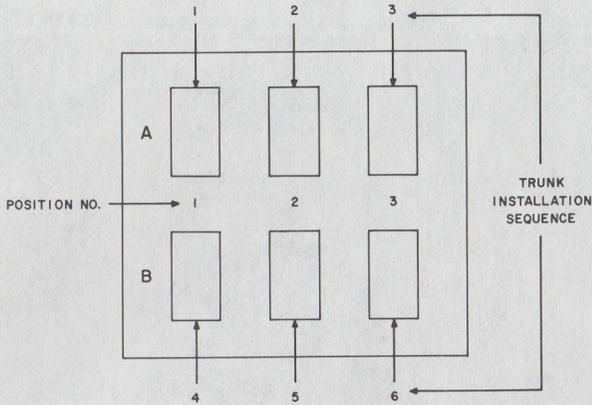

Fig. 3—Connector and Trunk Arrangement in 606A Panel
2.03 The panel is arranged to accept six CO or PBX lines. Fig. 3 shows the connector and trunk arrangement in the 606A panel.
Lower the designation strip holder and lock down to hold the upper IUs in place. Lower the retaining clip on the guide assembly and fasten to hold the lower IUs in place. Refer to Fig. 3 for installation sequence of the IUs in the panel to correspond to the plug wiring arrangement.